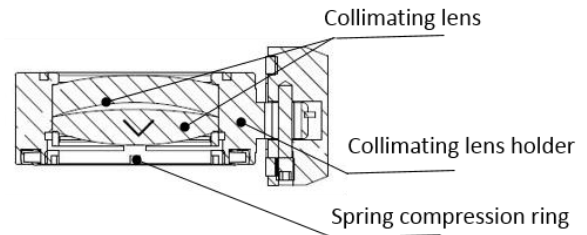

Figure 6.6 — Installation diagram of collimating lens
- As shown in Figure 6.6, reassemble the components of collimating lens in order, pay attention to screw the spring compression ring appropriately with force, and re-screw it into the collimating components;